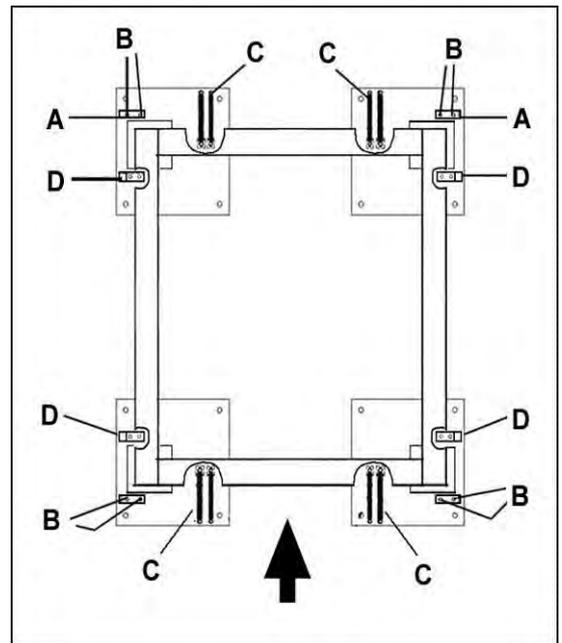

Fig. 4.10
5.7. Assembling Tilt system guards(Figure 4.10)